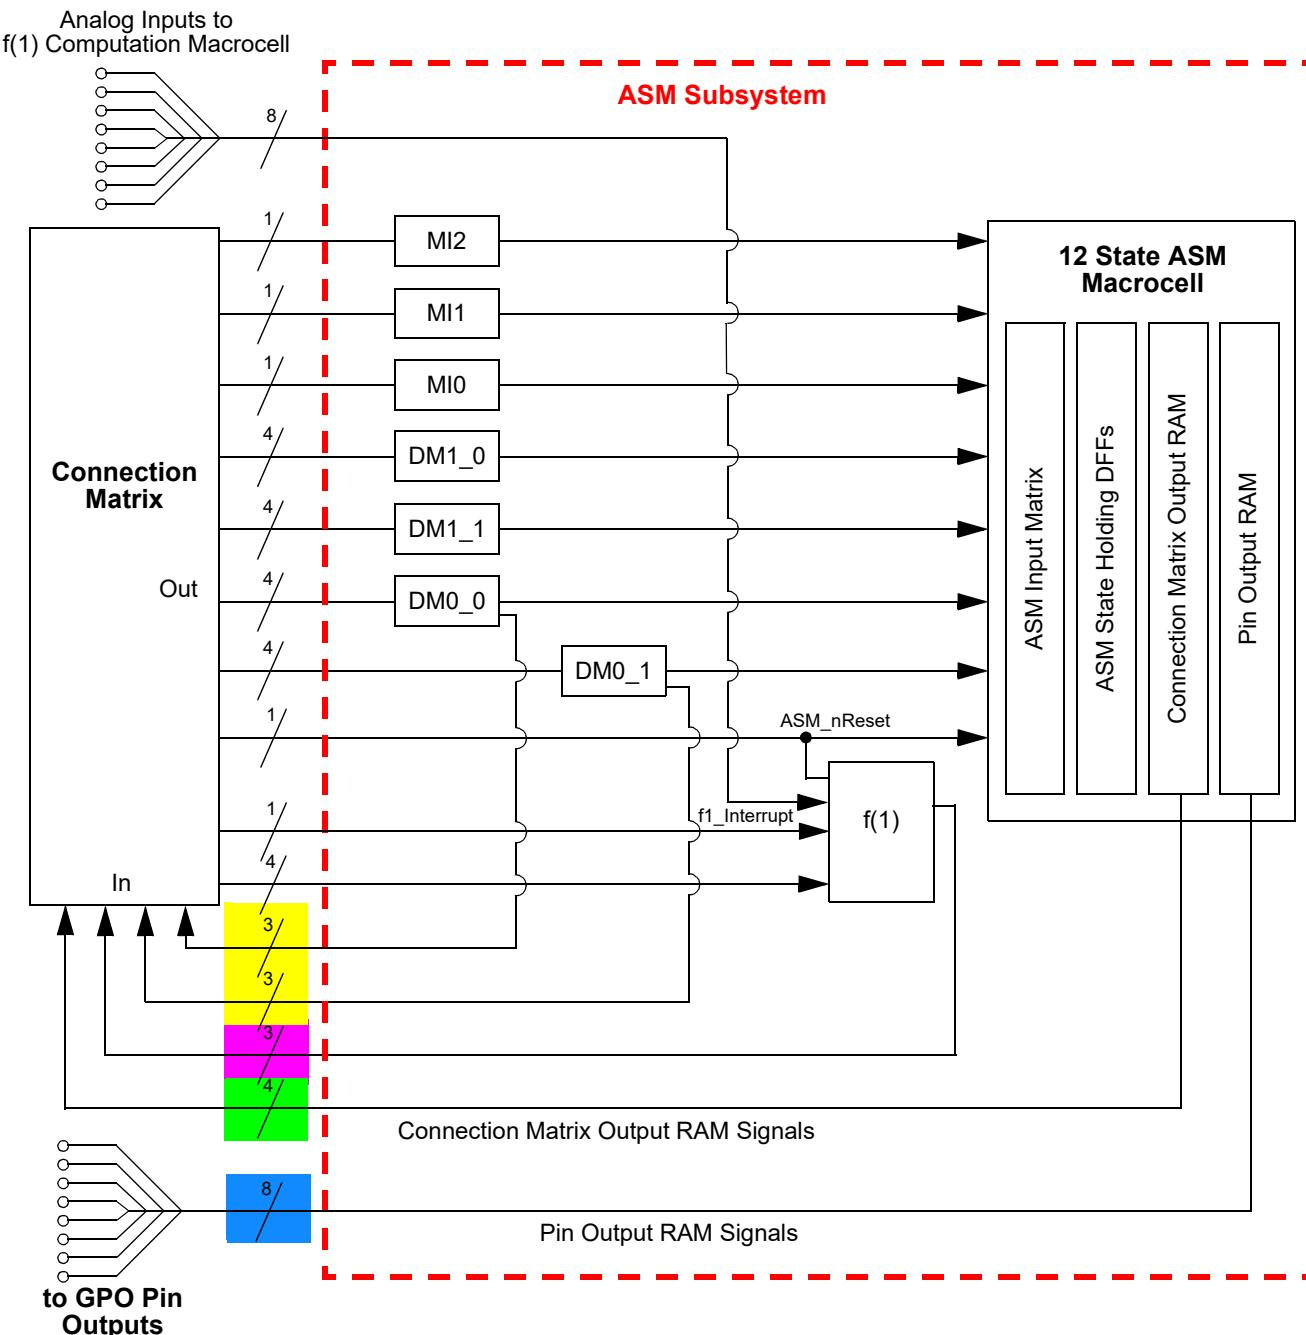

Figure 81: ASM Subsystem Input Signals
The ASM subsystem has a total of 21 output signal lines, as shown in Figure 81.
There are a total of 4 output signals from the ASM macrocell which go to the Connections Matrix inputs and from there can be routed to other internal macrocells or pins. These signals are shown in Figure 81, highlighted in green. The 4 outputs are user defined for each of the possible 12 states. The user selection for the output states is held in the Connection Matrix Output RAM.
There are a total of 8 output signals from the ASM macrocell which go directly to the 8 GPOs. These signals are shown in Figure 81, highlighted in blue. The 8 outputs are user defined for each of the possible 12 states. The user selection for the output states is held in the Pin Output RAM. Each of these GPOs has a single selection bit which defines the GPO input source as either the ASM Output RAM signal or the Connection Matrix signal.
Two of the Dynamic Memory macrocells, DM0_0 and DM0_1, can be used as either a resource for generating input signals for driving state transitions in the ASM macrocell, or to generate signals for use in other parts of the user design. When used to generate signals for purposes other than ASM state transitions, each of these macrocells has three output signals that go to the Connection Matrix, and from there can be routed to other internal macrocells or pins. Each of these macrocells has a total of 3 output signals of this type. These signals are shown in Figure 81, highlighted in yellow.
The f(1) Computation Macrocell has 3 output signals that go to the Connection Matrix, and from there can be routed to other internal macrocells or pins. These signals are shown in Figure 81, highlighted in pink.